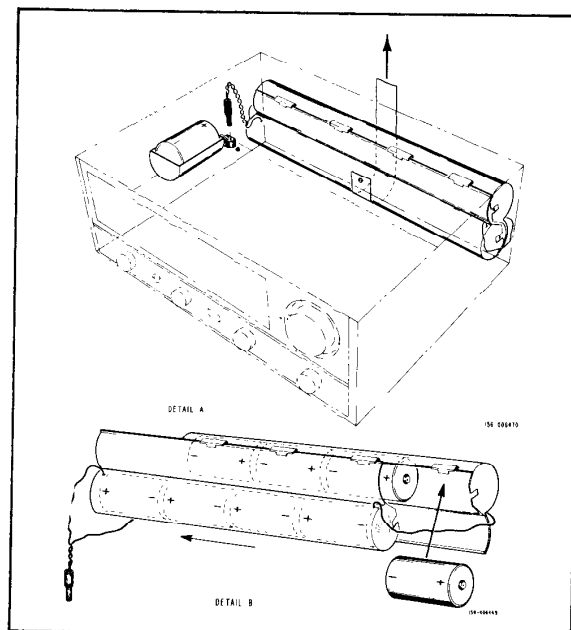

Figure 2. Battery Replacement Detail.
After the receiver is unpacked, place the receiver with the panel facing you. Remove the top cover by removing the two top mounting feet. Disconnect the battery plug near the left side of the chassis, then gently pull up on the cloth tape at the center of the battery pack, lifting the battery pack from the receiver. (See Detail "A" of Figure 2.)
Slide the upper part of the battery pack against the lower part (see Detail "B" of Figure 2) and carefully install the eight D-size cells.
**IT IS ESSENTIAL THAT THE BATTERIES BE INSTALLED IN THE CORRECT MANNER AS SHOWN IN DETAIL "B" OF FIGURE 2. IMPROPER BATTERY INSTALLATION MAY CAUSE EXTENSIVE DAMAGE TO THE RECEIVER.**
An additional D-size cell is provided for the dial lamps. This battery should be installed as shown in Detail A, of Figure 2.